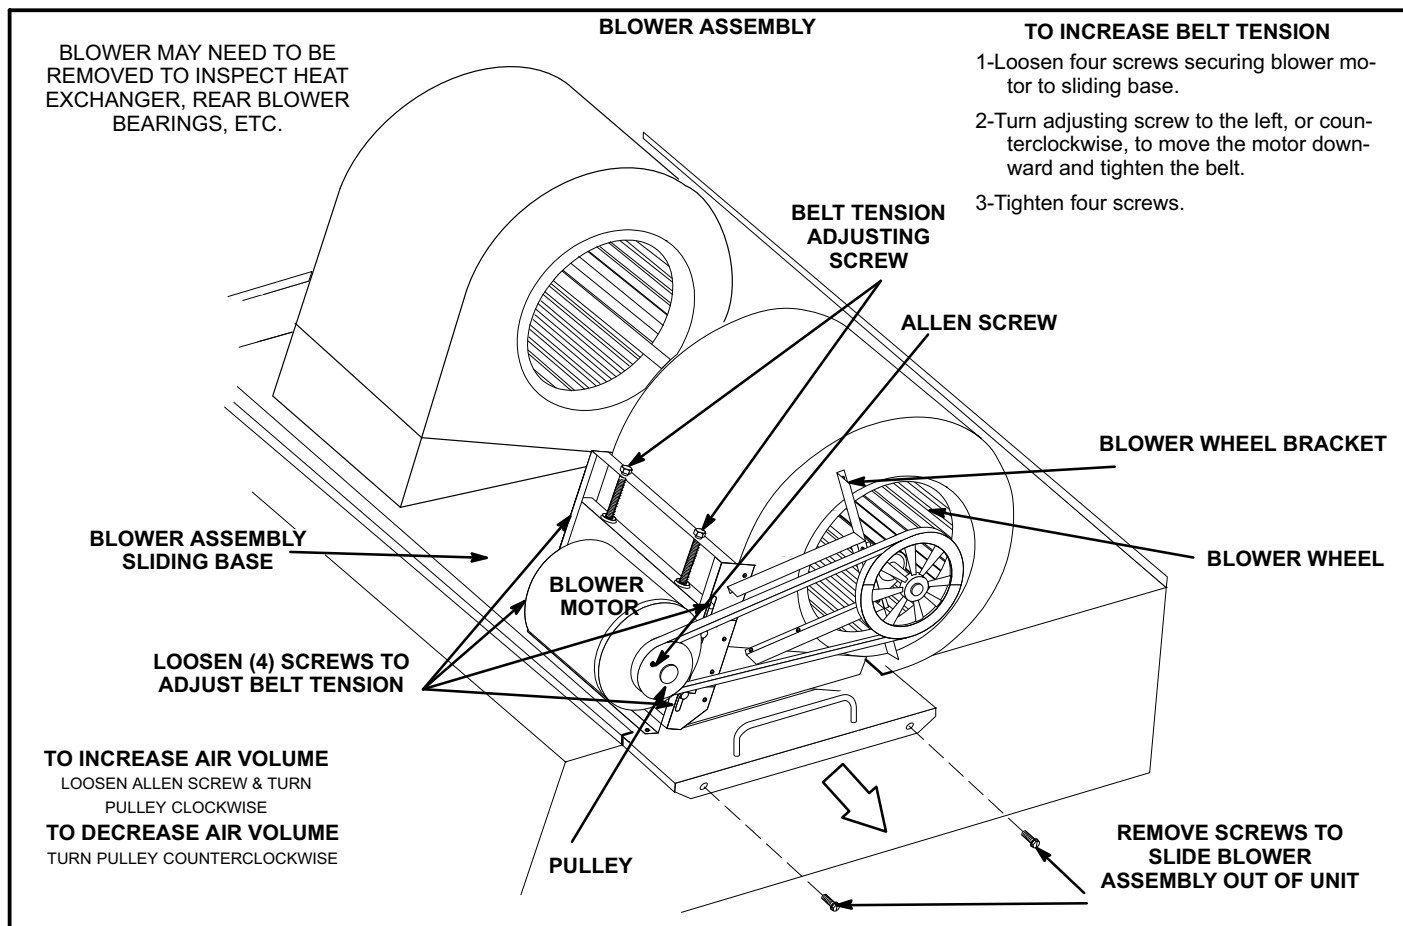

FIGURE 10
The blower compartment is located between the evaporator coil and the compressor / control section on the opposite side of the condenser coil. The blower assembly is accessed by disconnecting the blower motor wiring (and all other plugs) and removing the screws on either side of the sliding base. The base pulls out as shown in figure 10.
- 5- The RPM can be adjusted at the motor pulley. Loosen Allen screw and turn adjustable pulley clockwise to increase RPM. Turn counterclockwise to decrease RPM. See figure 10.
1. Loosen four screws securing blower motor to sliding base. See figure 10.